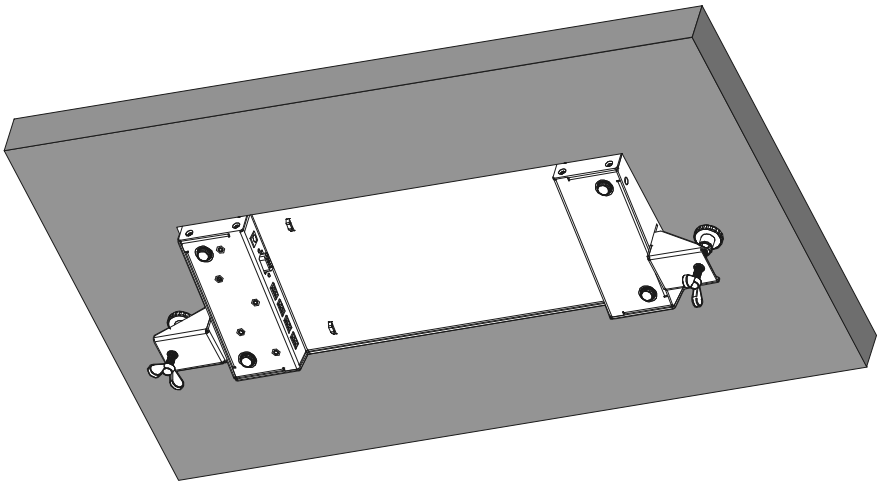

Figure 6: Securing the VP-727T into the Prepared Cut Out Opening
6. Tighten the locking butterfly screws to lock the mounting butterfly screws. The **VP-727T** unit is now secured in place, as illustrated in Figure 6.